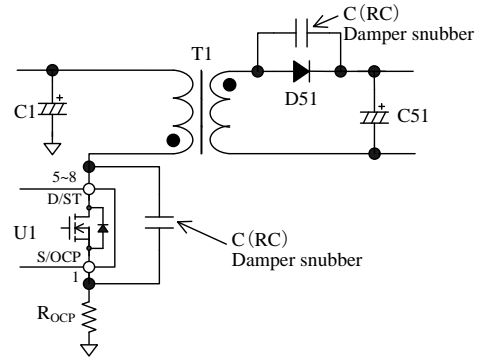
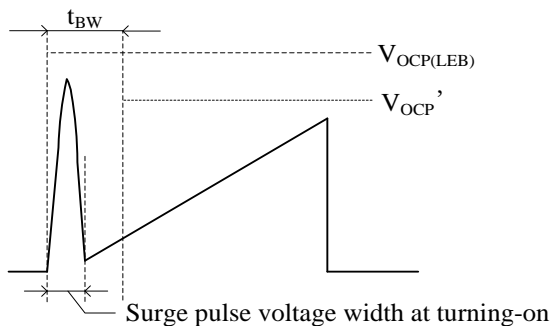

Figure 10-13. Damper Snubber
Figure 10-12. S/OC Pin Voltage
During Leading Edge Blanking Time, the OCP threshold voltage becomes $V_{OCP(LEB)} = 1.69\text{ V}$ which is higher than the normal OCP threshold voltage as shown in Figure 10-12. Changing to this threshold voltage prevents the IC from responding to the surge voltage in turning-on the power MOSFET. This function operates as protection at the condition such as output windings shorted or unusual withstand voltage of secondary-side rectifier diodes.
When the power MOSFET turns on, the surge voltage width of the S/OC pin should be less than t_{BW} , as shown in Figure 10-12. In order to prevent surge voltage, pay extra attention to R_{OCP} trace layout (see Section 11.2). In addition, if a C (RC) damper snubber of Figure 10-13 is used, reduce the capacitor value of damper snubber.